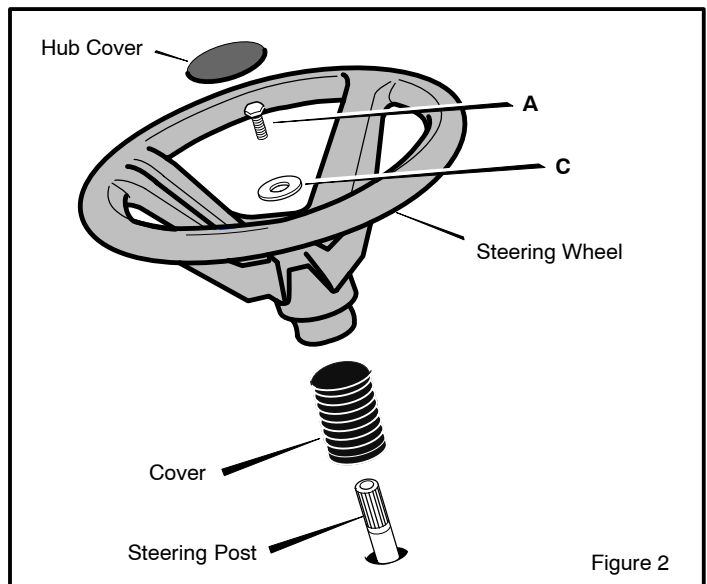

Figure 2
2. Slide the **cover**, if equipped, over the **steering post** (Figure 2). **NOTE: The cover is an optional accessory and is not required on all models.**